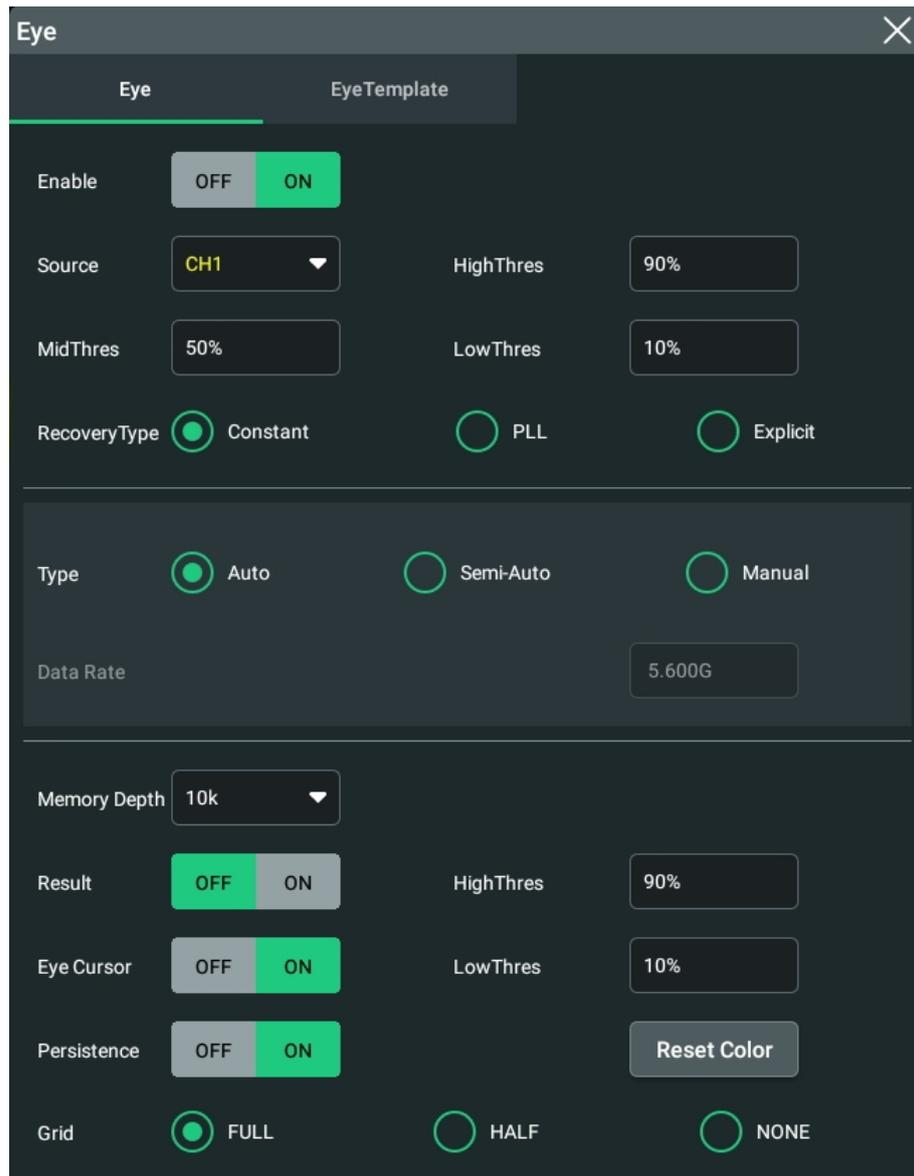

Figure 13.1 Eye Diagram Setting Menu
- Click or tap **Setting**, then the eye diagram menu is displayed, as shown in Figure 13.1.